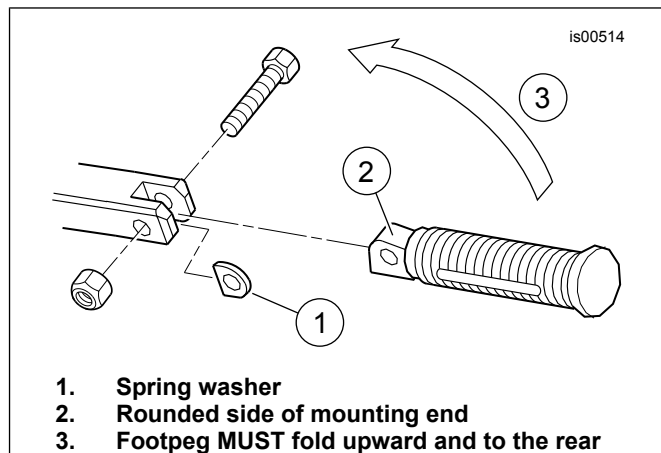

Figure 4. Correct Footpeg Installation
See Figure 4. Install the spring washer (1) between the jaws of the footpeg support bracket along with the mounting end of the footpeg.